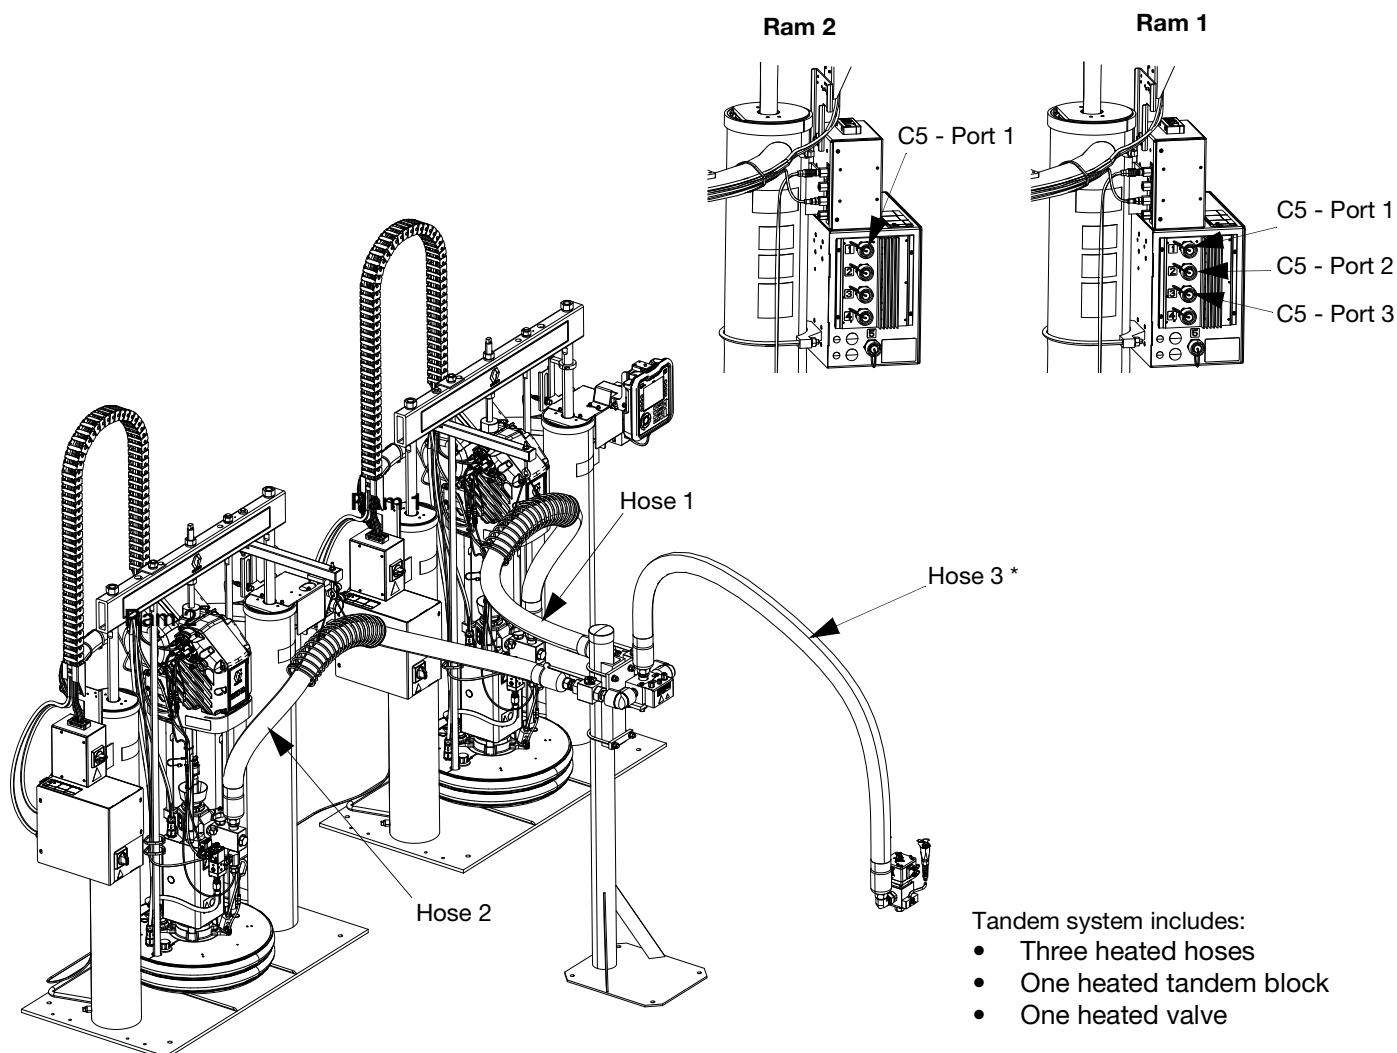

FIG. 27
- Heated Valve - Square electrical connection from hose 4 to Axial Dispense Valve (B).
- Heated Tandem Block - Square electrical connection from hose 1 or hose 2 to heated tandem block (R). See FIG. 27.